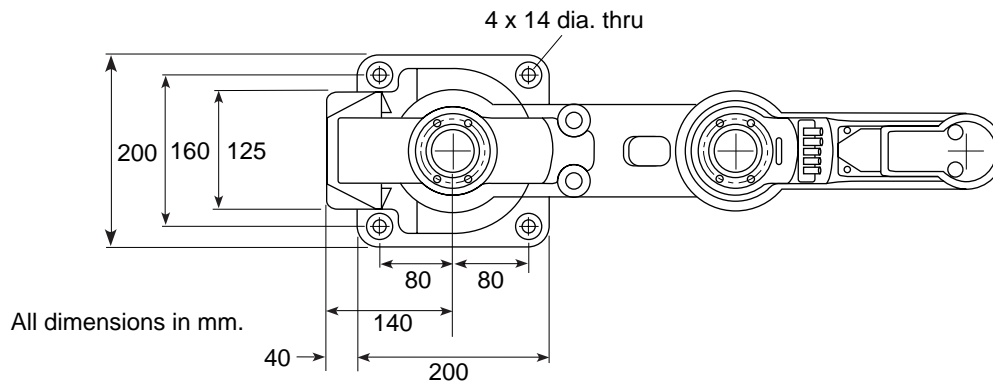

Figure 2-2. Mounting Hole Pattern (Robot-to-Mounting Surface)
The Adept 550 robot is designed to be mounted on a smooth, flat, level tabletop. The mounting structure must be rigid enough to prevent vibration and flexing during robot operation. Excessive vibration or mounting flexure will degrade robot performance. Figure 2-2 shows the mounting hole pattern for the Adept 550.
1. Using the dimensions shown in Figure 2-2, drill and tap the mounting surface for four M12 - 1.75 x 36mm (or 7/16 - 14 UNC x 1.50 inch) machine bolts (bolts not provided). See Table 2-4 for bolt and torque specifications.